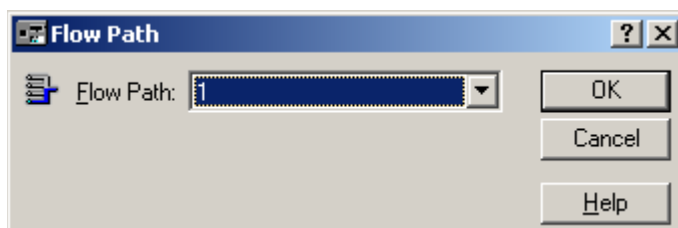

Figure 2.5
- 2.8.2 The Flow Path window (Fig. 2.5) will open